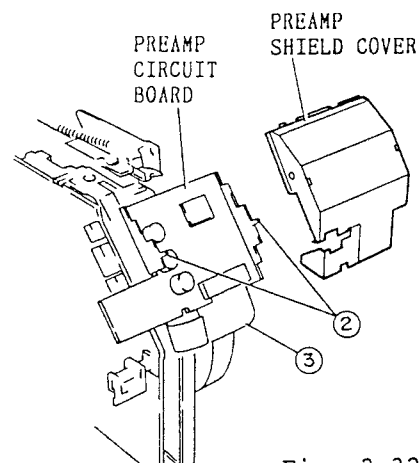

Fig. 2-32
2. Release two (2) tabs and remove the preamp shield cover. (See Fig. 2-32)
(See Figs. 2-32, 2-33)